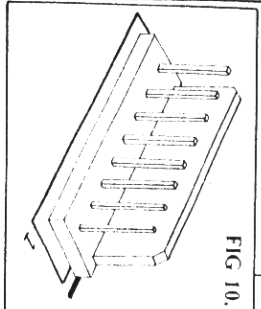

FIG. 7.
- 9) Referring to FIG. 7, fit Regulators REG 4, 5. Trim leads to length, solder and secure regulator to PCB as shown.
- 10) Fit Heat sink (item 51) in position HS100 and solder both legs. Apply a smear of Heat sink compound (item 59) to tab of TR102. Referring to FIG 7, fit TR102 to PCB ensuring tab is in contact with Heat sink over its full length. Retain TR102 in position against Heat sink with clip (item 52). Solder TR102 in place and trim leads.